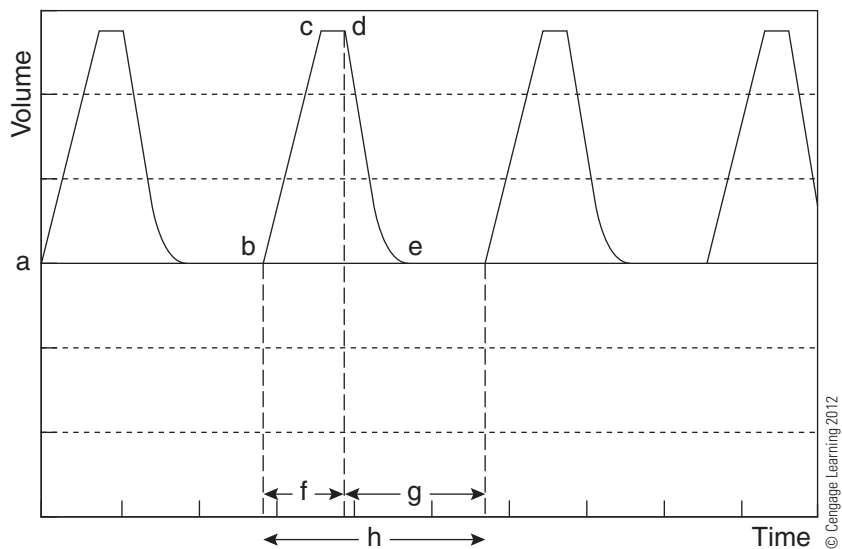

Figure 3-1 Normal
(1) Volume-Time Waveforms - Constant Flow
- Figure 3-1** Normal